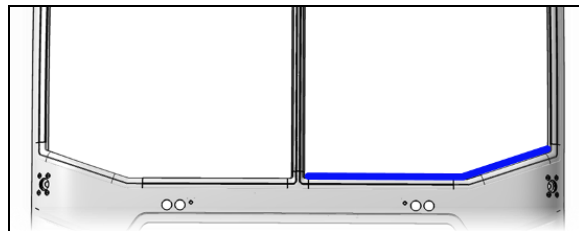

FIGURE 65
12. Apply masking tape (Figure 64 & Figure 65).